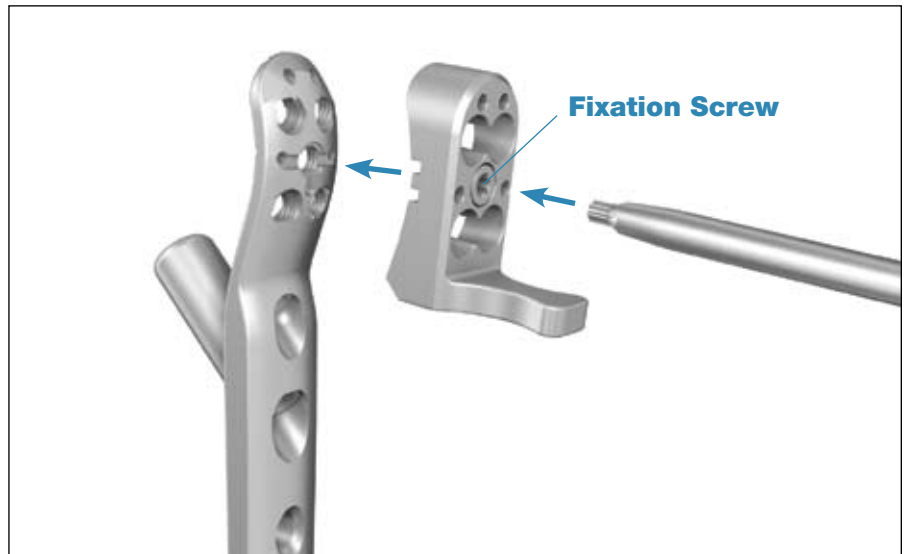

Fig. 3: Fixation of the Aiming Block to the Omega3 Trochanteric Stabilizing Plate.
Using the Screwdriver T20 (REF 702748) or the Screwdriver T20 Bit (REF 702754) which fits into a medium T-Handle, the fixation screw is threaded into the central Locking Hole of the spoon section of the plate (Fig. 3).
**Note:** The small fixation screw (Fig. 3) of the Aiming Block is not intended to be removed for cleaning and sterilization.